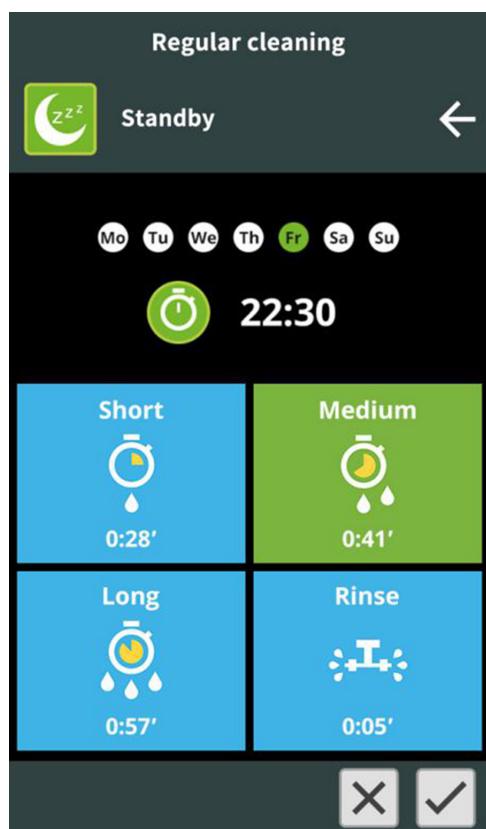
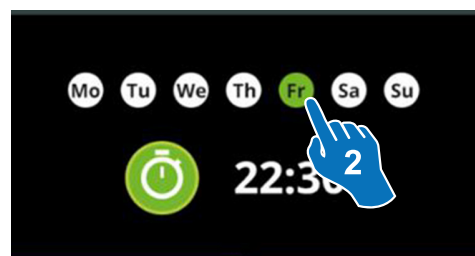

Fig 62
Fig 63
- Set the date and time for the cleaning process. For example, in Fig 62 & Fig 63, the cleaning process is set for 22:30 on Friday.